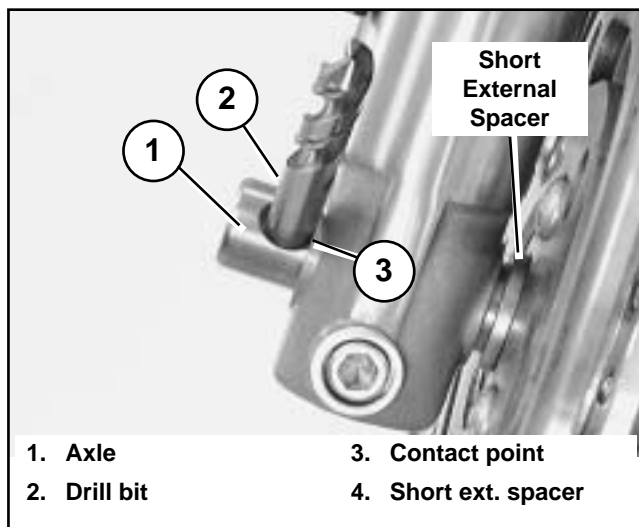
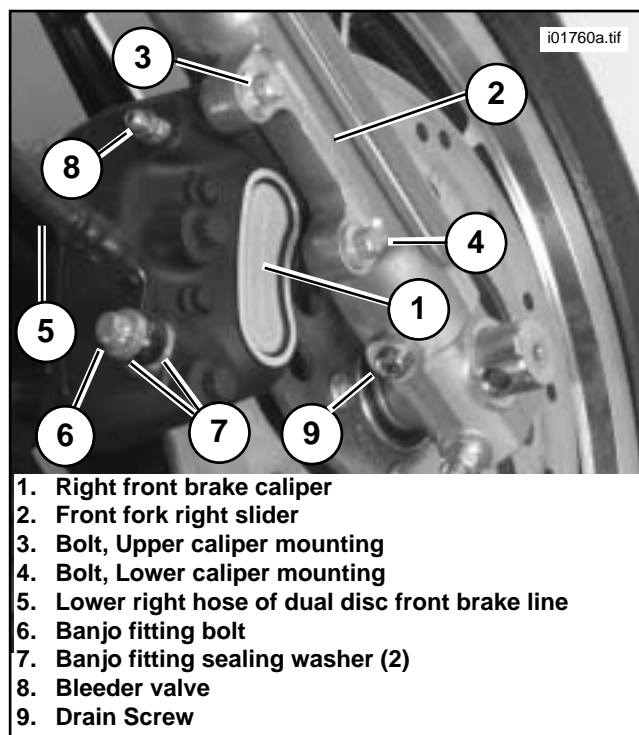

Figure 3. Wheel Installation (Right side shown)
Figure 4. New Right Front Brake Disc and Caliper
4. See Figure 3. Supporting wheel, insert threaded end of axle (1) through right fork leg. Push axle through fork, **short** external spacer (not shown) and wheel hub until it begins to emerge from left side.
5. Push axle (1) through **long** external spacer (not shown) and left fork leg until axle (1) shoulder contacts external spacer on right fork side.
8. See Figure 3. Insert 7/16 inch drill bit (2) into hole in axle (1).
9. Pull fork leg so that it just contacts drill bit (3), then tighten axle pinch bolt nut to 25-30 ft-lbs (33.9-40.7 Nm)
11. See Figure 4. Install brake caliper as follows:
6. Connect lower left hose (6) of new brake line (3) to original left front brake caliper using original banjo fitting bolt and two new banjo fitting sealing washers from kit. Refer to appropriate Service Manual for detailed installation procedures. Tighten banjo bolt to 17-22 ft-lbs (23-29.8 Nm).
7. See Figure 4. Connect lower right hose (5) of new brake line to new right front brake caliper (1) using one new banjo fitting bolt (6) and two new banjo fitting sealing washers (7) from kit. Follow same installation procedures specified for left side brake in appropriate Service Manual. Tighten banjo bolt to 17-22 ft-lbs (23-29.8 Nm).